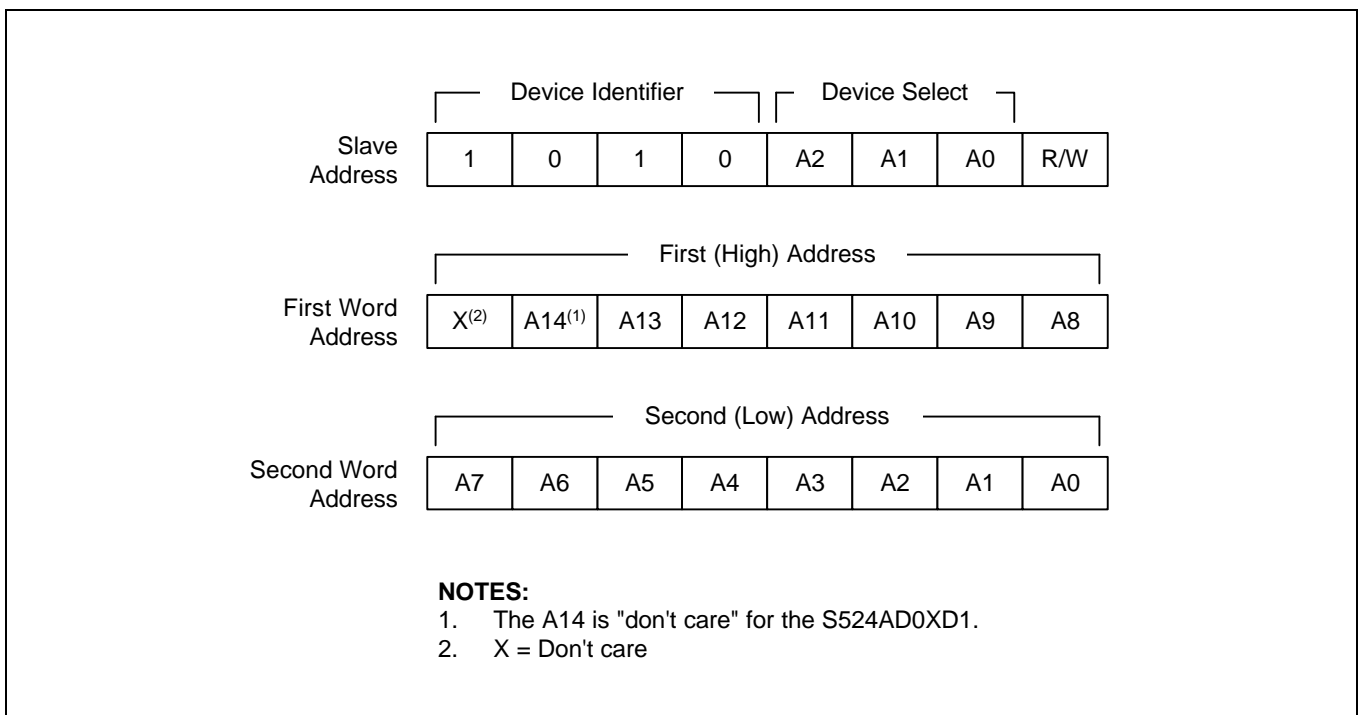

Figure 5-9. Device Address
- **Slave Address:** After the master initiates a start condition, it must output the address of the device to be accessed. The most significant four bits of the slave address are called the “device identifier.” The identifier for the S524AD0XD1/D0XF1 is “1010B”. The next three bits comprise the address of a specific device. The device address is defined by the state of the A0, A1, and A2 pins. Using this addressing scheme, you can cascade up to eight S524AD0XD1/D0XF1s on the bus (see Figure 5-9 below).